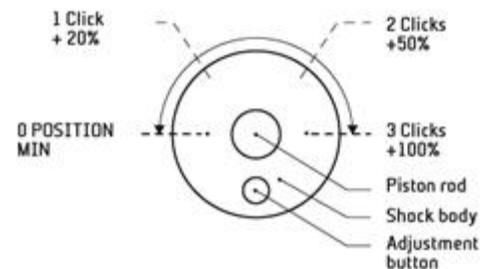

Figure 4: Rebound adjustment (approximate force). Listen for the clearly distinguishable clicks, each of which marks an adjustment position.
3. The adjusting device has been provided with a number of clearly distinguishable stops (clicks), each of which marks an adjustment position (zero + 3 clicks = 4 positions) (figure 4).